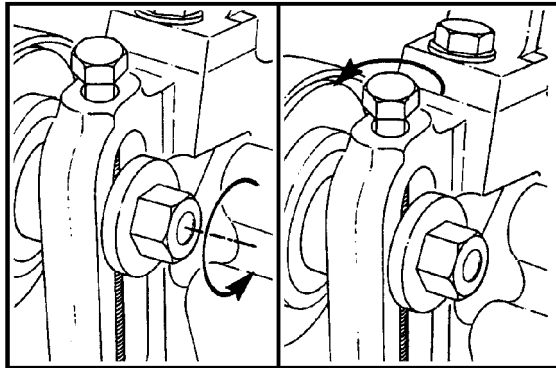

Figure 6.5-17
1. Loosen the locknut which secures the idler pulley to the water pump (Figure 6.5-17).
2. Turn the adjusting screw to adjust the belt tension (Figure 6.5-17).